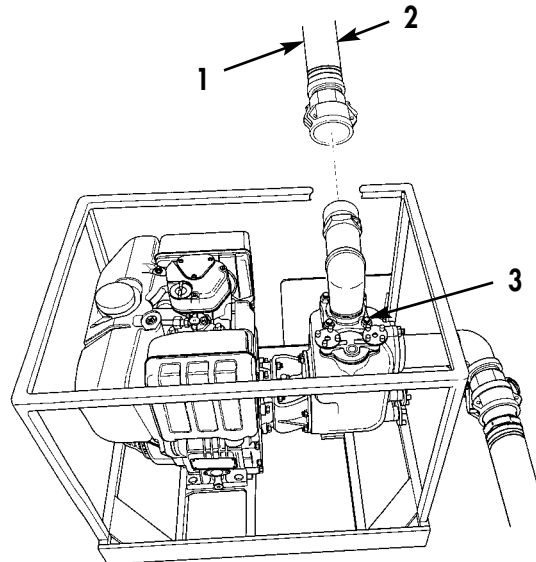

Figure 5. Discharge Hose Connection.
12. Remove cap and plug, and connect 2 in. (51 mm) DIA x 10 ft (3 m) long discharge hose assembly (Figure 5, Item 2) to MQD coupling (Figure 5, Item 1) on pump discharge port (Figure 5, Item 3).